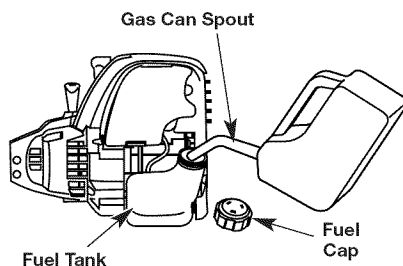

Fig. 8
1. Remove the fuel cap (Fig. 8).
2. Place the gas container's spout into the fill hole on the fuel tank (Fig. 8) and fill the tank.